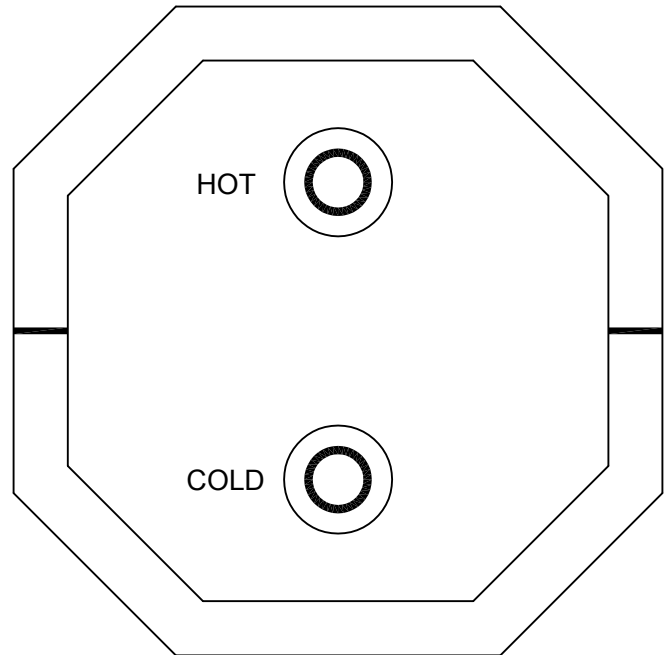

Figure 4
A. Water connections are made at the rear of the water heater. See Figure 4. Connect the hot and cold water lines to the 1/2" female pipe fitting provided on rear of tank. These fittings are marked "HOT" and "COLD". NOTE: Inside each fitting is a plastic fill tube. Its purpose is to enhance water circulation. **DO NOT REMOVE PLASTIC FILL TUBE.**